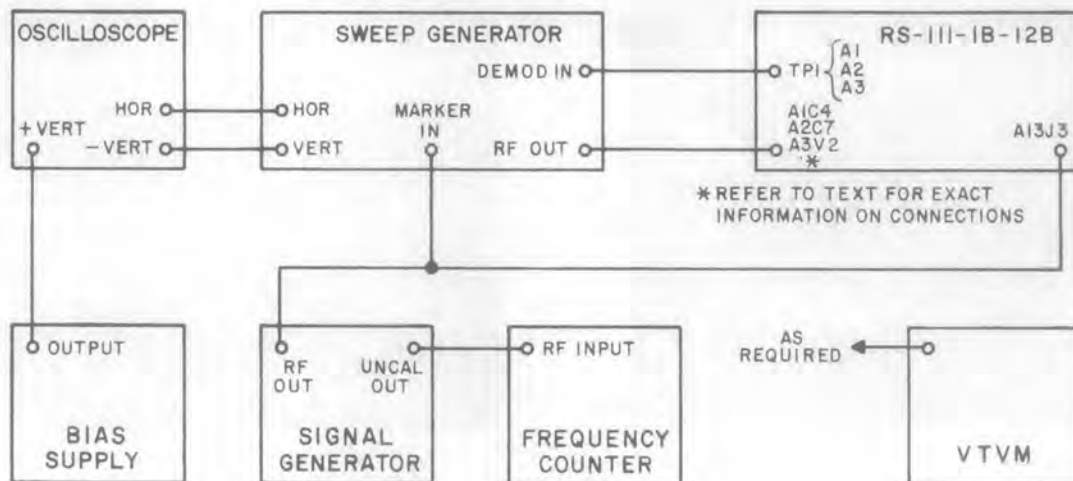

Figure 4-21. Test Setup, Tuners Interstage Alignment
- (2) Connect the equipment as shown in Figure 4-21.
- (3) Set the oscilloscope controls as follows:
- (4) Set the sweep generator controls as follows:
- (1) Connect the equipment as shown in Figure 4-21; unsolder C7 from L3 for the rf connection.
- (2) Set the oscilloscope controls as follows:
- (3) Set the sweep generator controls as follows: